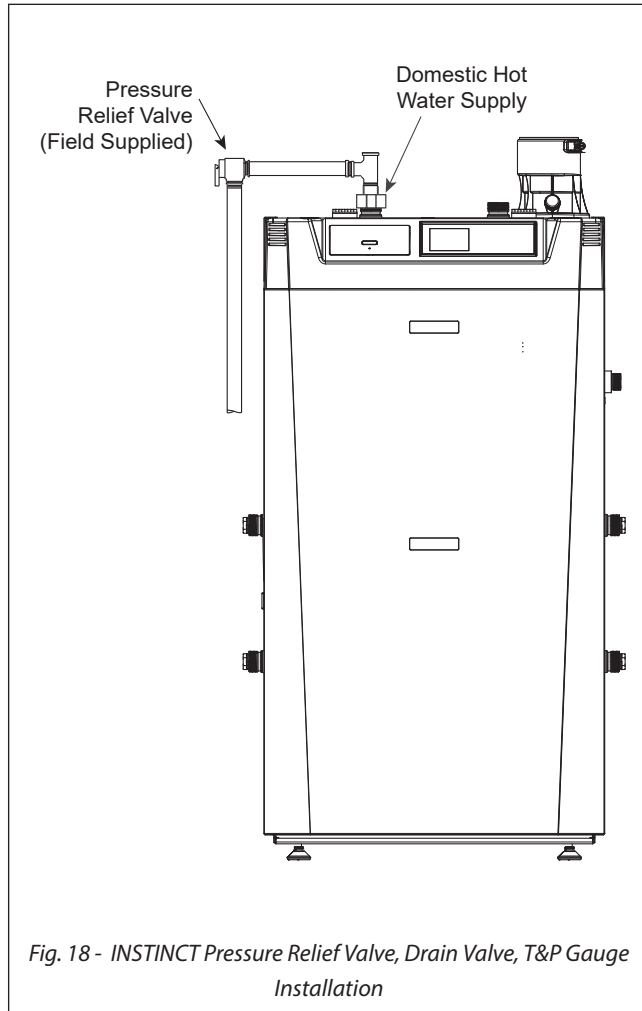

Fig. 18 - INSTINCT Pressure Relief Valve, Drain Valve, T&P Gauge Installation
Install pressure relief valve onto the domestic piping as shown in Fig 18 below.
1. The INSTINCT is not supplied with a 150 psi [10bar] pressure relief valve and must be piped using a pressure relief valve connected as shown in *Fig. 18 on page 29*